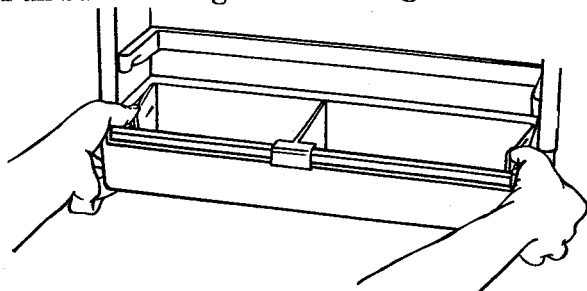

Figure 19
- Pull bucket straight out. See Figure 19.